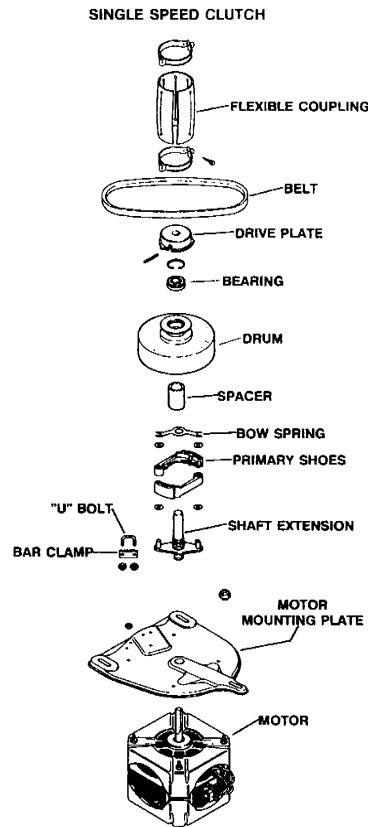

Figure 6
2. With the drive plate removed, the clutch may be disassembled. See Figure 6 for line-up of clutch parts.